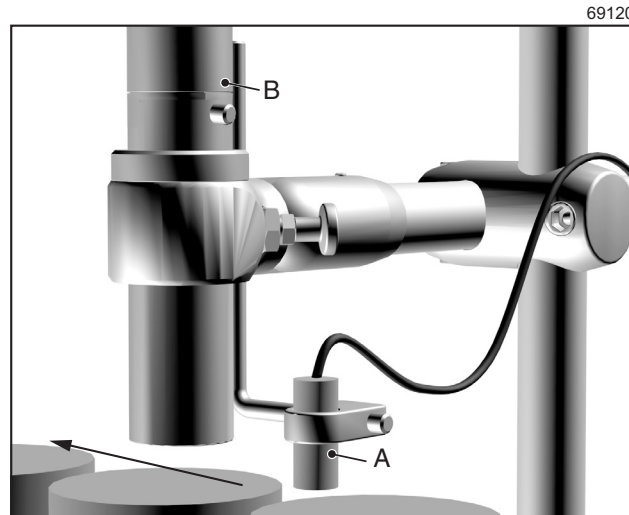

Figure 5. Product sensor setup
Figure 5 shows the product sensor (A) and the printhead (B). The arrow shows the direction of movement of the product along the production line.